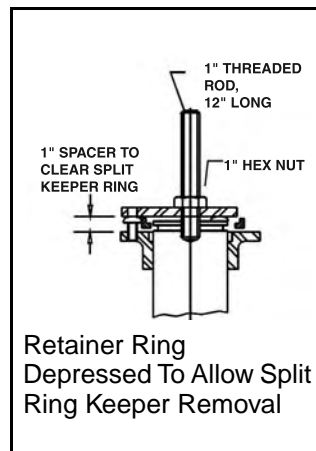

Figure 3
Using the existing 1.00 UNC tapped hole in top of hook shank, install threaded rod (thread the full length) of at least 12" long to allow controlled release of spring (See Figure 3).
2. Using the existing 1.00 UNC tapped hole in top of hook shank, install threaded rod (thread the full length) of at least 12" long to allow controlled release of spring (See Figure 3).
1. Locate the retainer ring on the coil spring, and over the hook shank. Use the existing three button head cap screws, partially threaded into retainer ring, to provide at least 1 inch of space between retainer plate and retainer ring. Using the existing 1.00 UNC tapped hole in top of hook shank, install threaded rod (threads the full length) of at least 12" long to allow compression of the coil spring. Then tighten with a heavy hex nut against the retainer plate until the split keeper rings (qty. 2) can be installed through gap between retainer plate and retainer ring (See Figure 3 on page 7, note orientation of retainer ring).